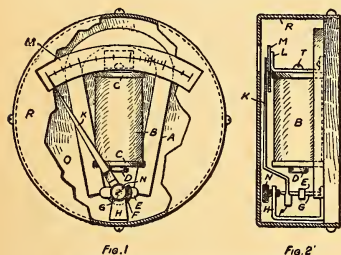

FIG. 1
One of the most convenient and accurate methods of determining the condition of a storage cell is a reliable, low reading pocket voltmeter. Fig. 1 is a plan view and Fig. 2 is a side view of an easily constructed instrument.
For the pivot (G) of the moving system, break off both ends of a large sewing needle, leaving the center portion about  $\frac{1}{2}$  inch long and then grind both its ends to sharp points. The armature (E) is about  $\frac{1}{8}$  by  $\frac{3}{32}$  by  $\frac{3}{8}$  inch, with ends neatly rounded. This must be of hard tempered steel and strongly magnetized. Soldered near the top of the pivot at the proper angle is the pointer (K), made of very thin springy brass nicely tapered and blackened. The counterbalance (F) is very important. It must exactly balance the pointer and also any inequalities in the balance of the armature. The various parts should retain the positions shown (Fig. 1), unless